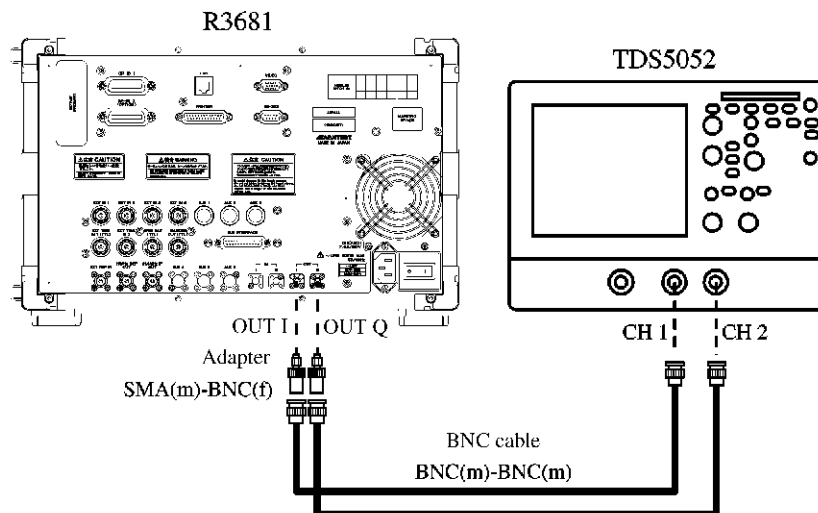

Figure 8-6 Phase Difference between Channels Measurement Connection Diagram
2. Connect the instruments as shown in Figure 8-6.